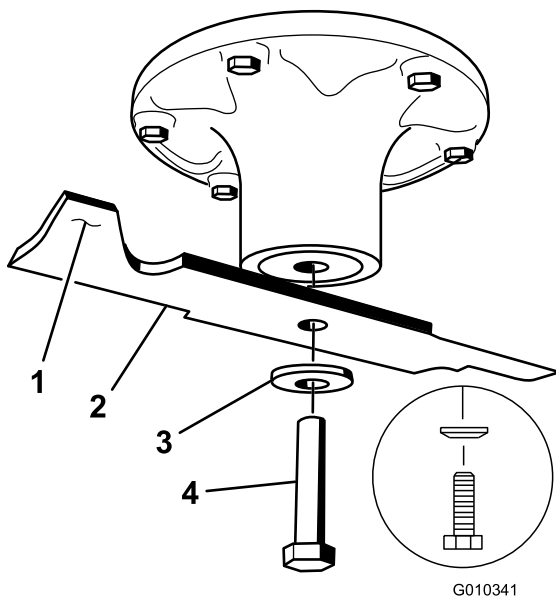

Figure 66
2. Remove the blade bolt, curved washer, and blade from the spindle shaft (Figure 66).
1. Install the blade onto the spindle shaft (Figure 66).
2. Install the spring disk and blade bolt with the spring disk cone installed toward the bolt head (Figure 66).